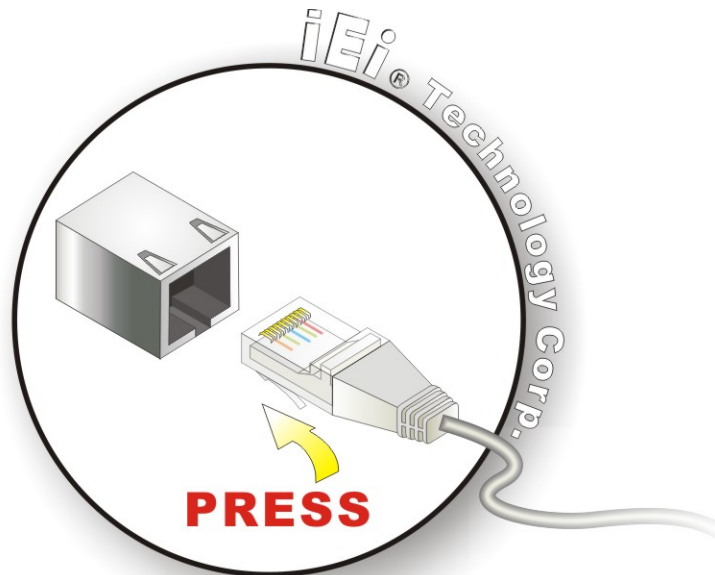

Figure 5-19: RJ-45 Ethernet Connector
Step 2: Insert an RJ-45 plug. Insert the RJ-45 plug of a LAN into the RJ-45 receptacle on the external peripheral interface. See Figure 5-19.